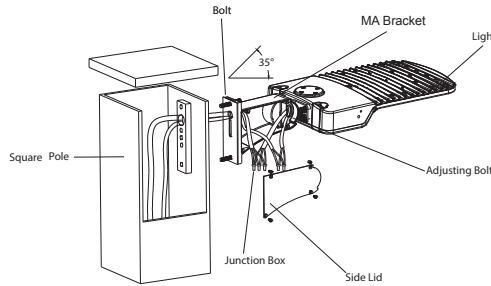

Figure 1
**5** Refer to attached wiring diagram to complete connections. (Figure 1)